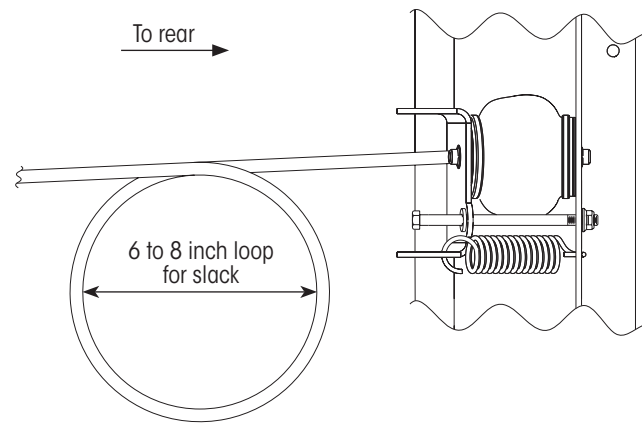

Figure 5: Connecting air line to actuator (top view)
2. **Place** other air spring stud into mounting hole in rear crossmember (Figure 5).
8. **Connect** air line to air spring actuator (Figure 5).